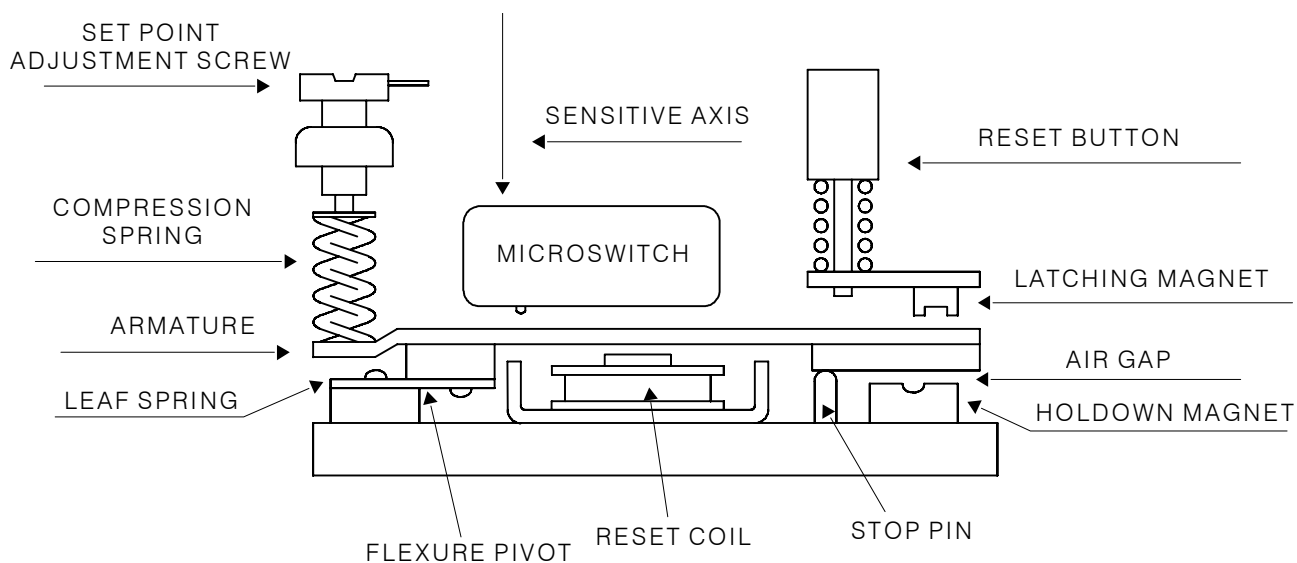

Figure 4-1 Operating Principle for the Vibraswitch, Model 366.
The Vibraswitch, Model EURO 366 (Refer to Figure 4-1), is sensitive to vibration in a direction (the sensitive axis) perpendicular to its mounting base. It contains a vibration detecting mechanism, which also functions as a “mechanical amplifier”, to activate a snap-action switch when the selected level of vibration is exceeded and the detecting mechanism “trips”.
With the equipment on which the Vibraswitch is mounted not operating, back off the Setpoint adjusting screw counterclockwise (CCW) two turns and press the reset button. Then turn the Setpoint adjusting screw slowly clockwise until actuation occurs (the armature assembly is against the latch magnet, Figure 4-1). This is the zero vibration point, or actuating point, with the machine not operating. A mark should be made with a lead pencil or other convenient means to permanently record this “zero vibration point”. Subsequent measurements are made relative to this point.
Vibraswitches do not normally require any maintenance or repair, however, listed below are some of the possible malfunctions that may occur and their recommended solutions (Ref. Figure 4-1). Perform all tests with field wiring disconnected.
a. Functional Test - (Ref. Figure 4-1)
2. Broken leaf spring - (Ref. Figure 4-1).
Defective or improperly adjusted switch - (Ref. Figure 4-1).